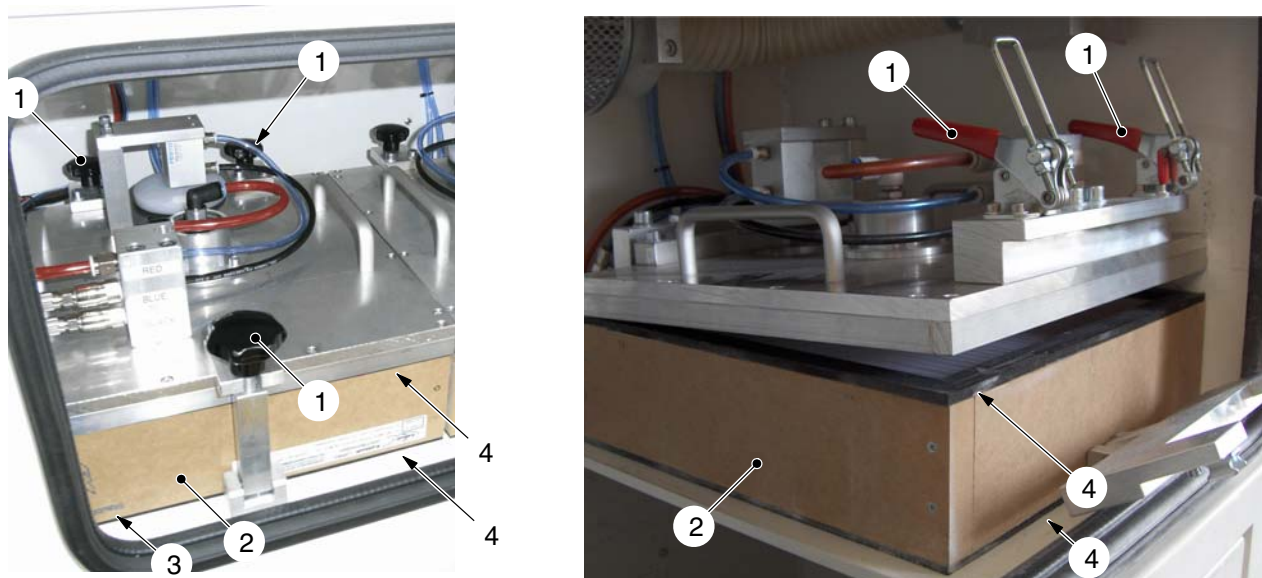

Fig. 5-3 View into the filter chamber (model with star grip (li) - model with tension lever (re))
**NOTE:** A spare parts kit with four seals (4, Fig. 5-3) can be ordered if the main filter cassette seals have detached (Fig. 5-2) (Refer to separate parts list).